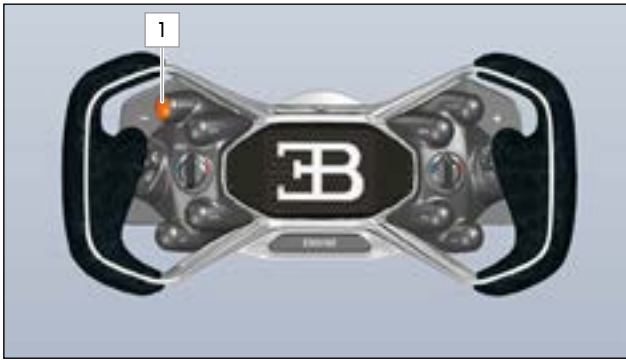

FIG.94 RADIO COMMUNICATION BUTTON ON THE STEERING WHEEL
- For the driver to communicate with the pit crew, press and hold the button 1 (» Fig.94).